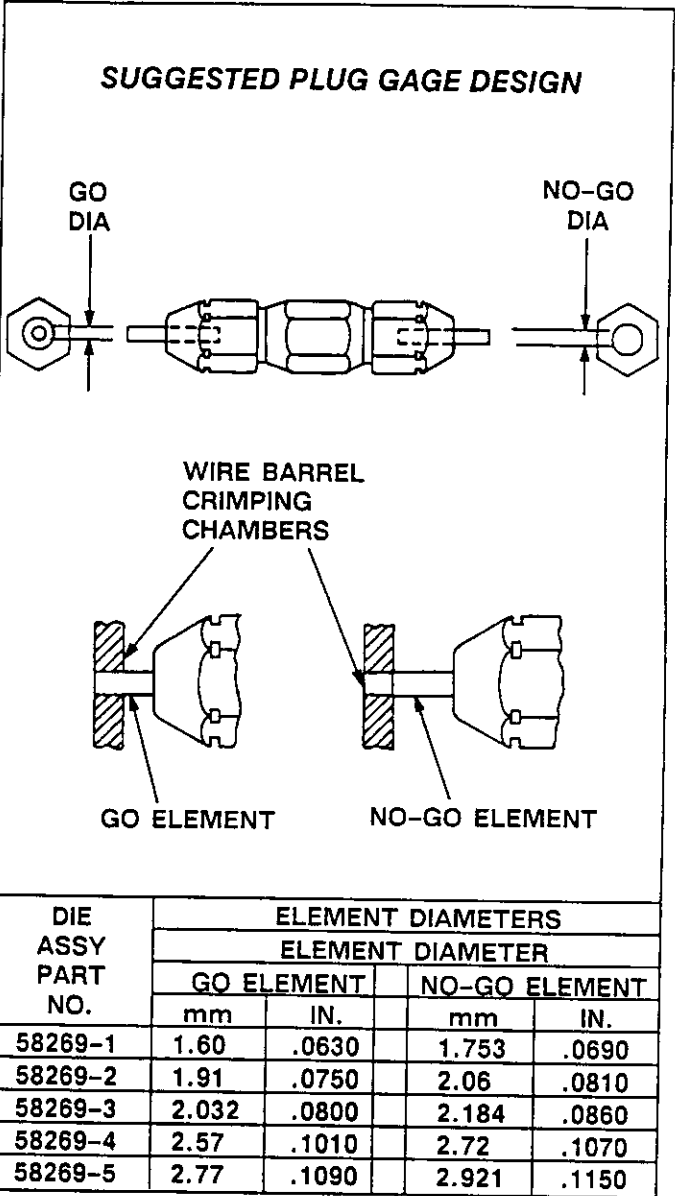

Fig. 3
This inspection requires the use of a plug gage conforming to the diameters shown in Figure 3. AMP does not manufacture or market these gages.
2. Align the GO element with the crimping chamber. Push element straight into the crimping chamber without using force. The GO element must pass completely through the chamber as shown in Figure 3.
3. Align the NO-GO element and try to insert it into the same chamber. The NO-GO element may start entry, but must not pass completely through the chamber. See Figure 3.